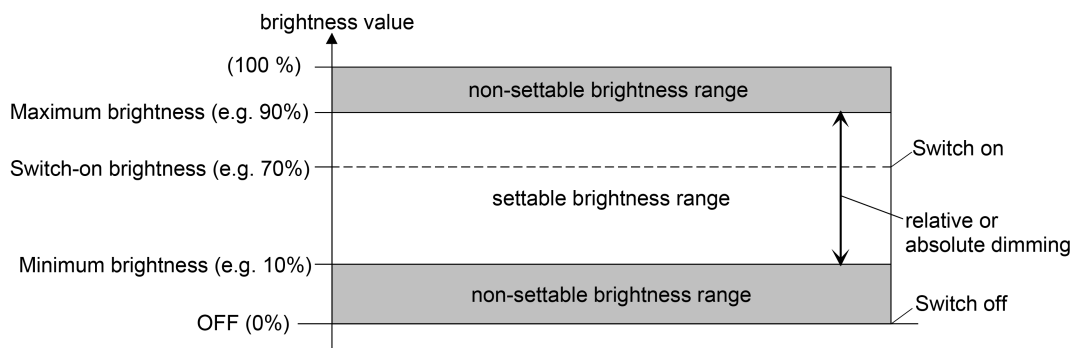

Figure 13: Example of a brightness range with minimum brightness
- Definition of the lower brightness limit with minimum brightness (figure 13):
- i** In the "speed controller" operating mode for the "1-gang" device variant - similar to the description of the brightness values for lighting control in this chapter - the minimum speed can be configured in the ETS (figure 13). The alternative configuration of a basic speed is not provided here for technical reasons. The maximum speed cannot be adjusted by means of a parameter either. It is predefined to 100 %. The cutting-in speed is unalterably preselected to a maximum speed (100 %).